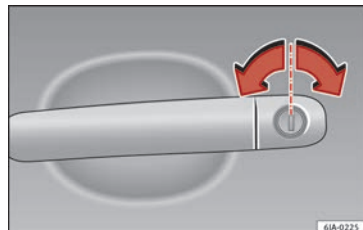

Fig. 3 Driver-side door handle with lock cylinder.
- Insert the key shaft into the lock cylinder to unlock or lock the vehicle »» Fig. 3.